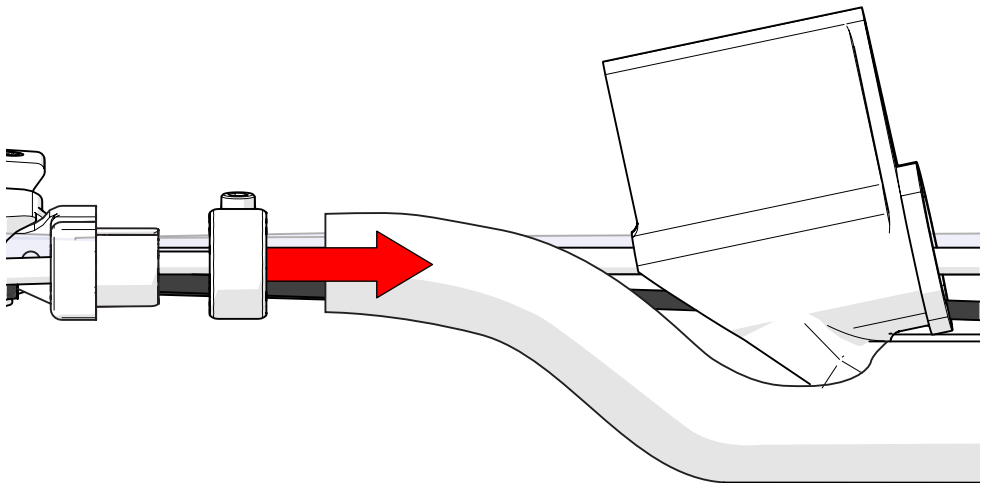

Fig. 63 - Slide the sleeve clamp around sleeving
7. Once an amount of the sleeving has been installed around the cables, slide the sleeve clamp around the sleeving (*Fig. 63*).